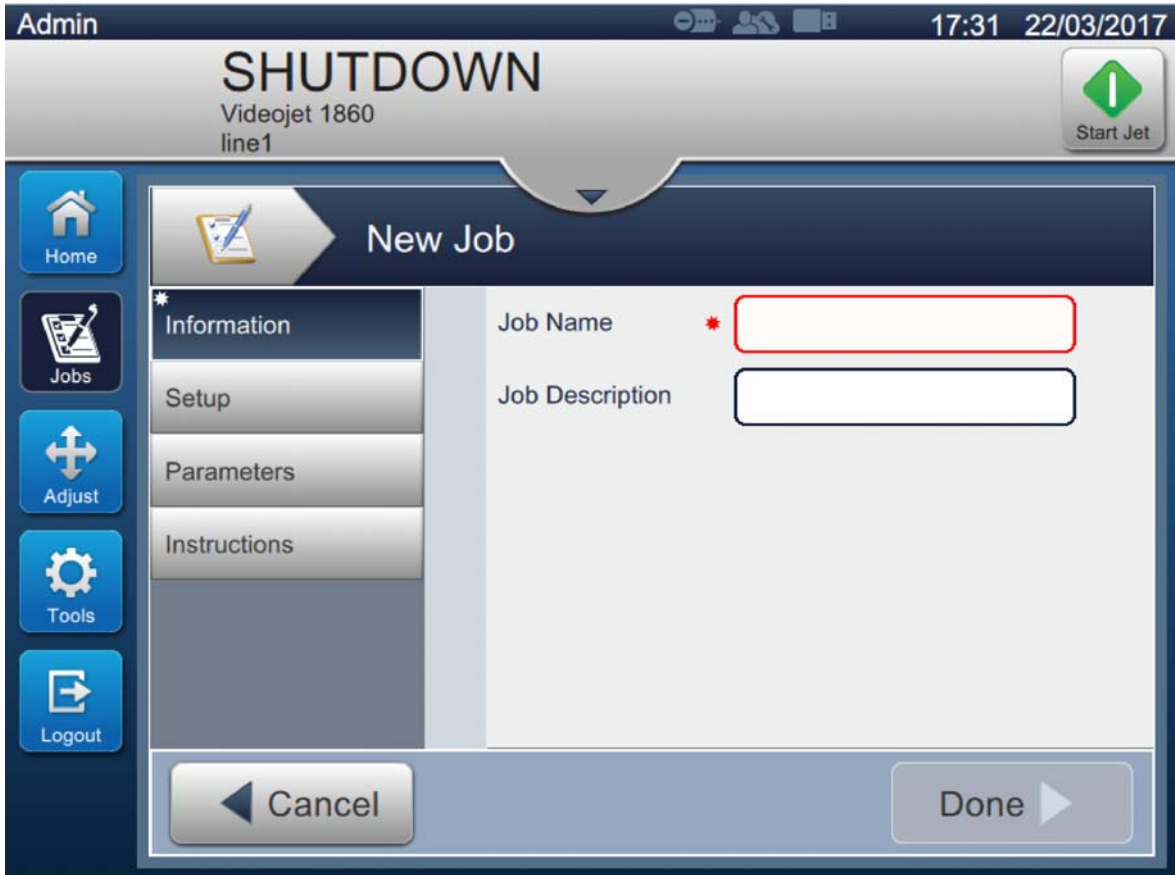

Figure 5-2: Information Screen
2. Touch the  button to create a new job. The Job Settings screen opens as shown in Figure 5-2.
The Information screen (Figure 5-2 on page 5-3) allows the user to do the following: